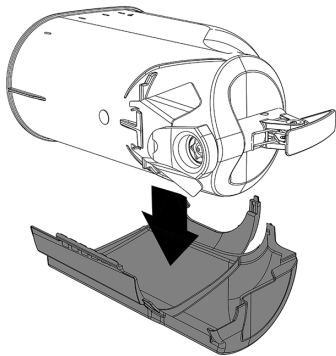
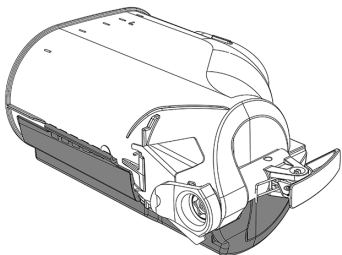

figure 2
figure 3
**1** Place the right-hand part of the recover on a surface. Place the container inside it.(see figure 2)(see figure 3).